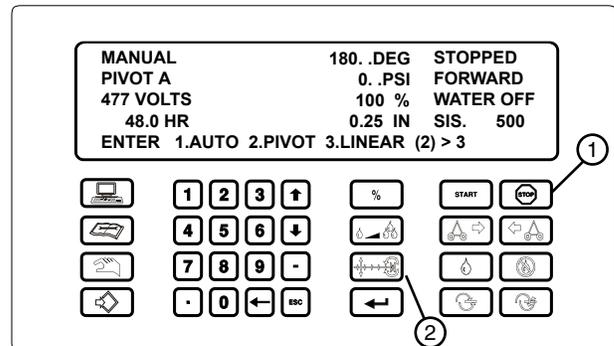

Figure 61-4 1. Stop Key 2. Pivot/Linear Key
7. Press  to stop the machine at the end of the pivot zone. See Figure 61-4.
8. Press  and **3** to return the machine to the linear mode. See Figure 61-4.